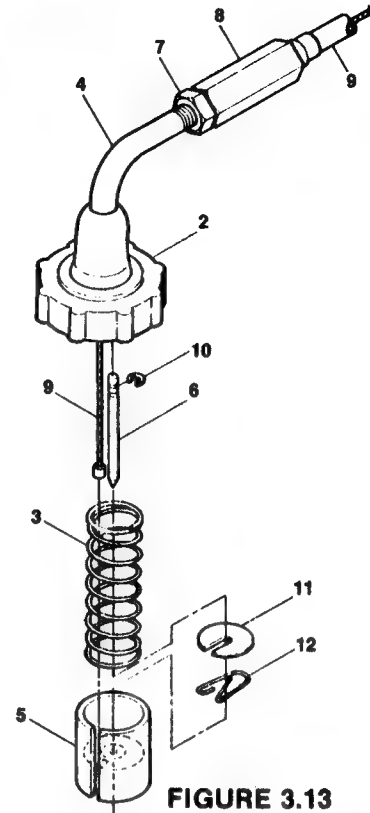

FIGURE 3.13
A. DISASSEMBLY—See Figure 3.13.